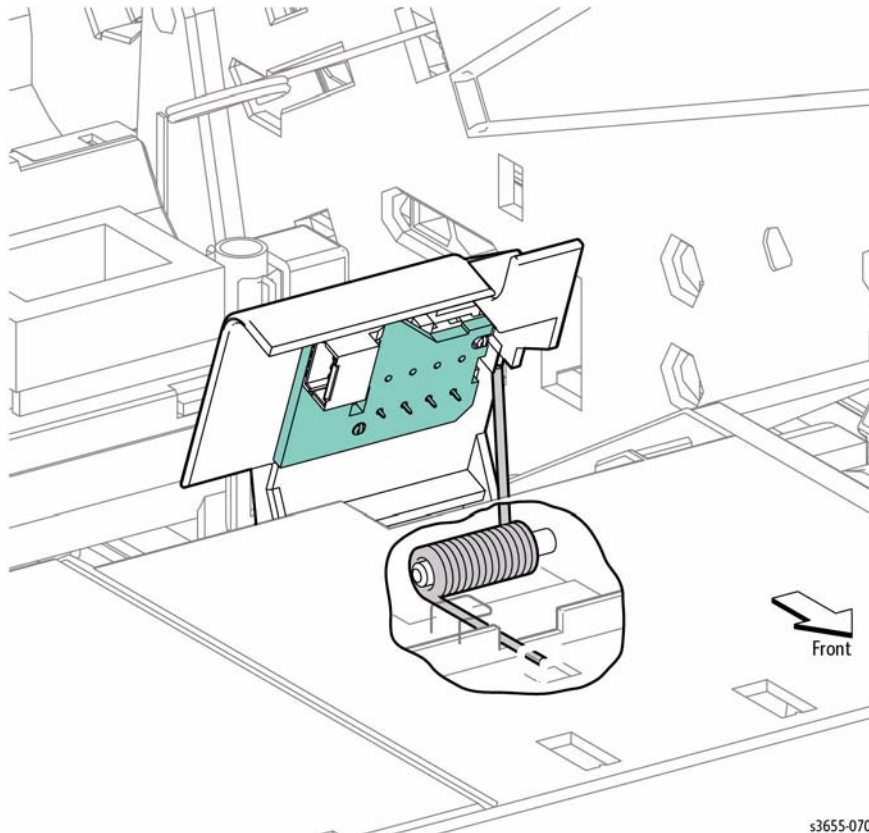

Figure 2 Toner CRUM Spring Position
- When closing the assembly, refer to Figure 2 to properly install the spring.